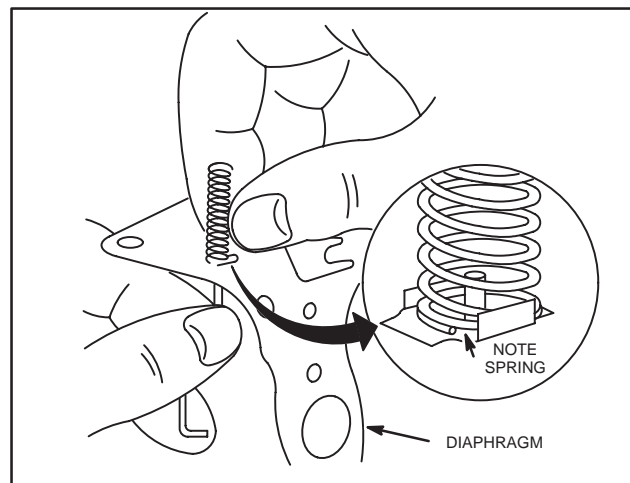

Fig. 241 - ASSEMBLING SPRING TO
4. If a new diaphragm is being installed, assemble choke spring to diaphragm, as shown in Fig. 241. See Table No. 12 for correct spring usage. Be careful not to bend or distort spring.